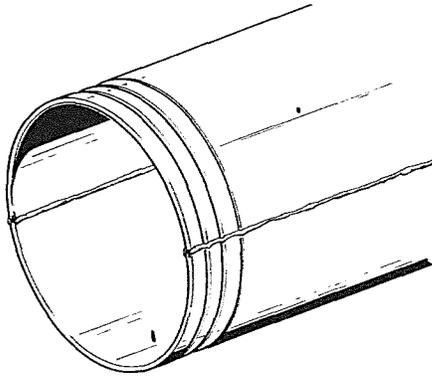

Figure 26. Align Sealing Grooves
7.10 Place sleeve halves around cables or splice and engage tongue and groove together. All end cap sealing grooves must align across sleeve halves. (Figure 26)